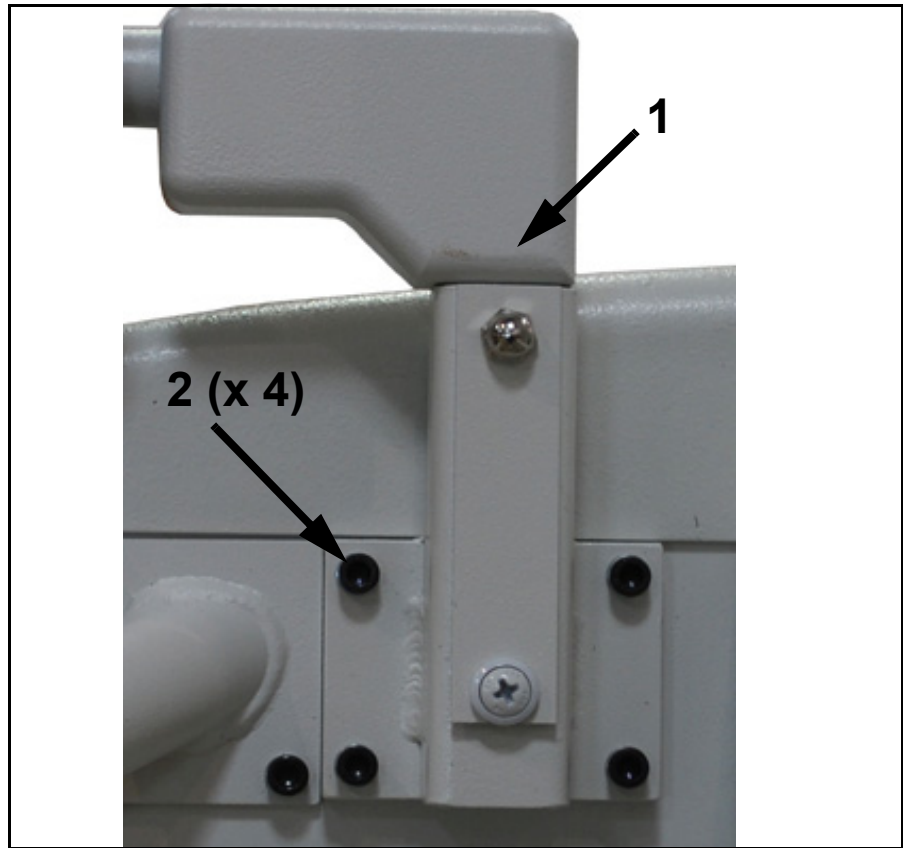

Figure 6-7. Handle Removal
- 1 To remove the handle (1 in Figure 6-7), unscrew the handle screws (2) and lift handle.